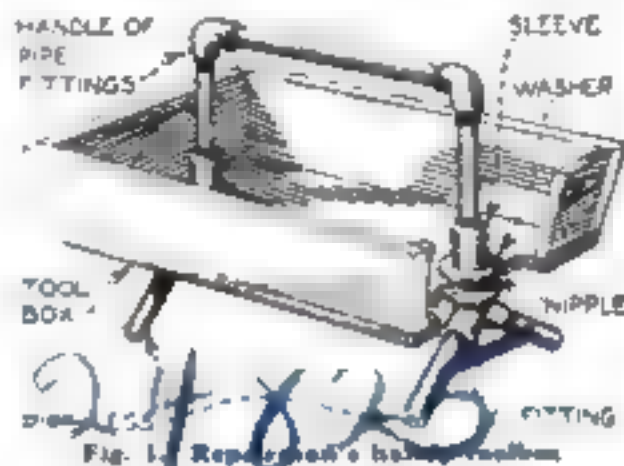

Fig. 4. Pulley lathe dog
**A** SATISFACTORY lathe dog for light work can be made from a discarded pulley by elongating the bore as shown in Fig. 4 and securing a drive pin to one of the spokes. The dog is equal to, if not better than, the common type, as the pulley rim prevents the lathe operator's clothes from catching in the driving lug. Moreover the dog is better balanced than the type ordinarily used.